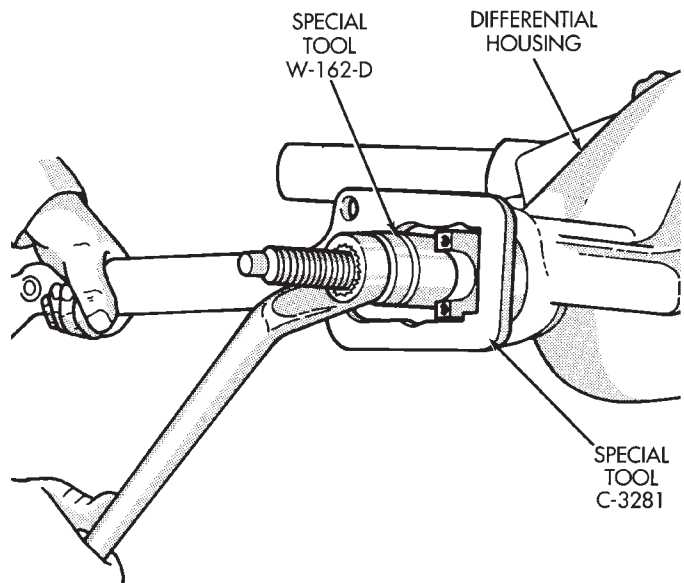

Fig. 54 Pinion Yoke Installation
(8) Install yoke with Installer W-162-D and Wrench C-3281 (Fig. 54).